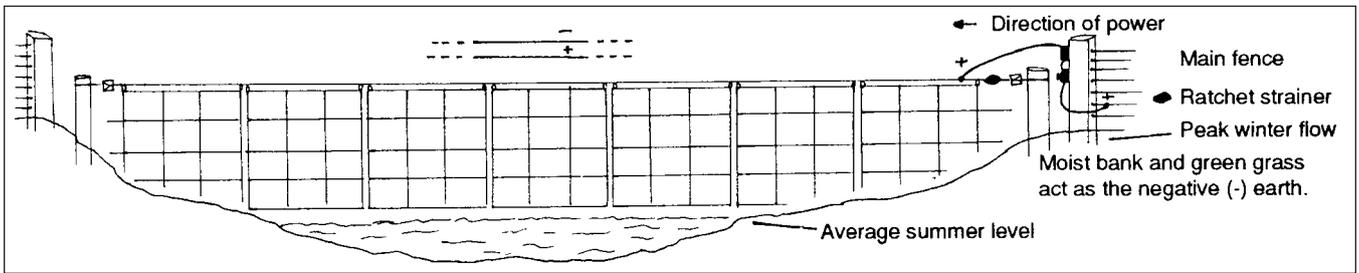

Fig. 2
**Semi-permanent (Fig. 2)** - suited to wide, flat crossings, including fords